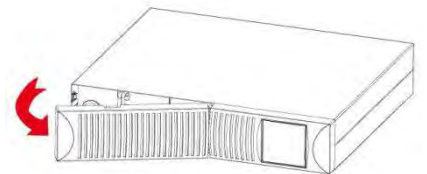

Fig. 5
5. Remove the front panel (fig. 5).